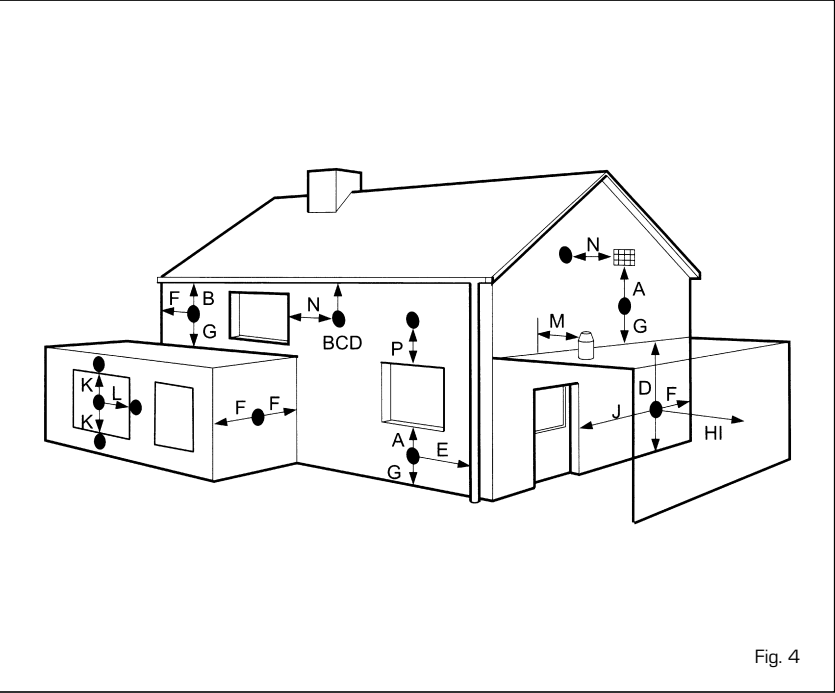

Fig. 4
- The minimum acceptable dimensions from the terminal to obstructions and ventilation openings are specified in fig. 4.